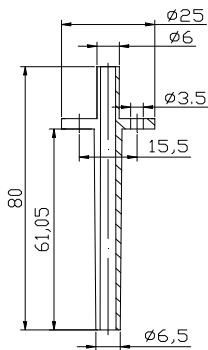
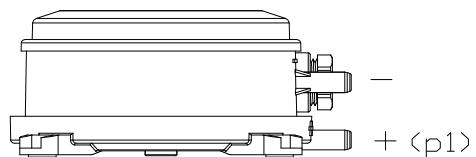

Fig. 5
Fig. 7
1. Insert the 2 pressure connection parts as Fig. 5 or 6 with the long side (60mm) into the prepared holes. Each part should be installed with 2 screws. Be sure to seal the holes after installing to keep the holes airproof.
2. Connect the plastic tube. The standard accessory is 2m long with inner  $\phi 6$ mm. Cut the tube as short as possible to connect the ports P1/"+" & "-“ on the switch and the other side of accessory of 1003 or 1009 as Fig. 5 or 6. P1/"+" is high port on the bottom of the switch and "-“ is low port on the switch body as Fig. 7.